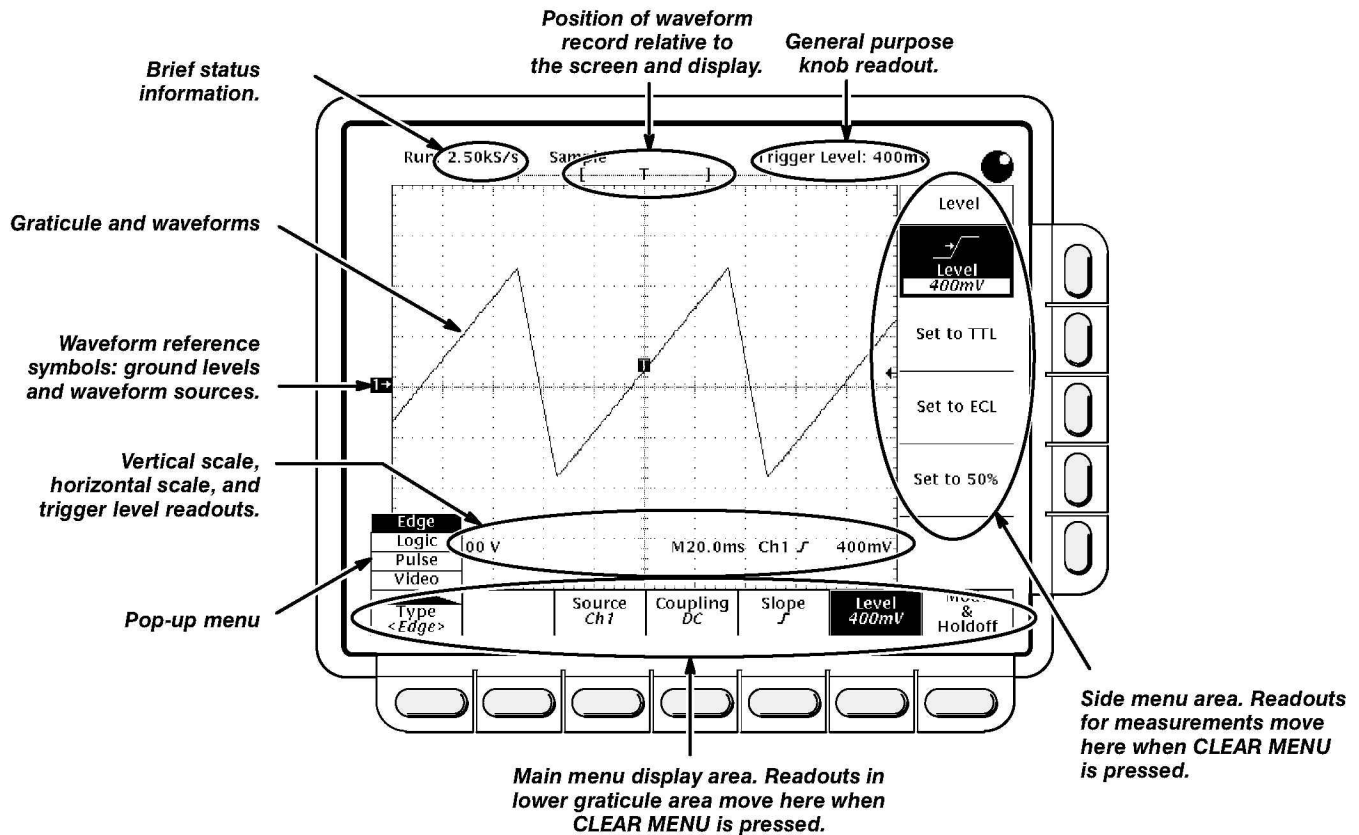

Figure 2-2: Map of Display Functions
The screen layout is illustrated in Figure 2-2 on page 2-14. Note that the figure illustrates a full graticule; you may also select a grid, crosshair, or frame graticule from the display menu.
- The general purpose knob has a readout area at the upper right corner of the screen. (See Figure 2-2.) This readout always reflects the name and value of the function that the general purpose knob is currently controlling.